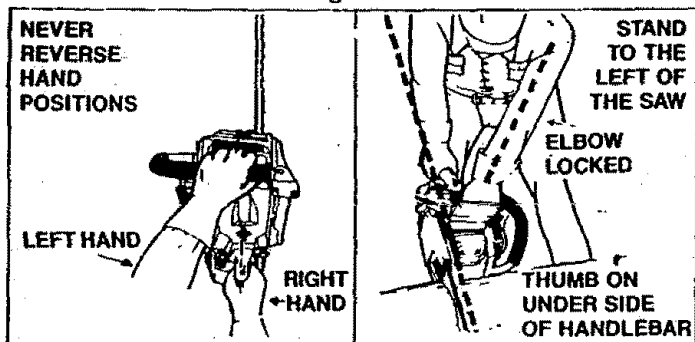

Figure 3
1. Keep a good firm grip on the saw with both hands when the engine is running and don't let go. Figure 3. A firm grip can neutralize kickback and help you maintain control of the saw. Keep the fingers of your left hand encircling and your left thumb under the front handlebar. Keep your right hand completely around the rear handle whether you are right handed or left handed. Keep your left arm straight with the elbow locked.
2. Position your left hand on the front handlebar so it is in a straight line with your right hand on the rear handle when making bucking cuts. Figure 3. Never reverse right and left hand positions during any type of cutting.
4. Stand slightly to the left side of the saw, to keep your body from being in a direct line with the cutting chain. Figure 3.